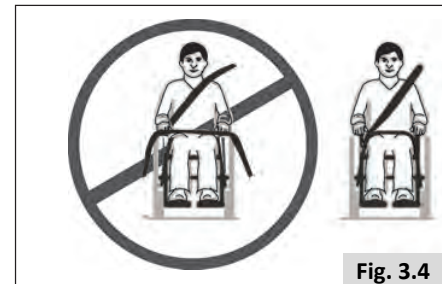

Fig. 3.4
20. Restraint belts must be adjusted as tightly as possible consistent with user comfort, and should not constrict breathing (Fig. 3.4).